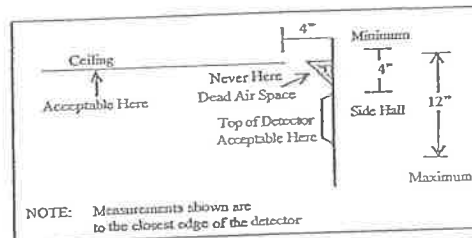

Figure 5 Example of proper mounting for smoke detector (From NFPA 74 NFPA 720)
- The 4 inch "Dead Air" – space where the ceiling meets the wall as shown in Figure 5